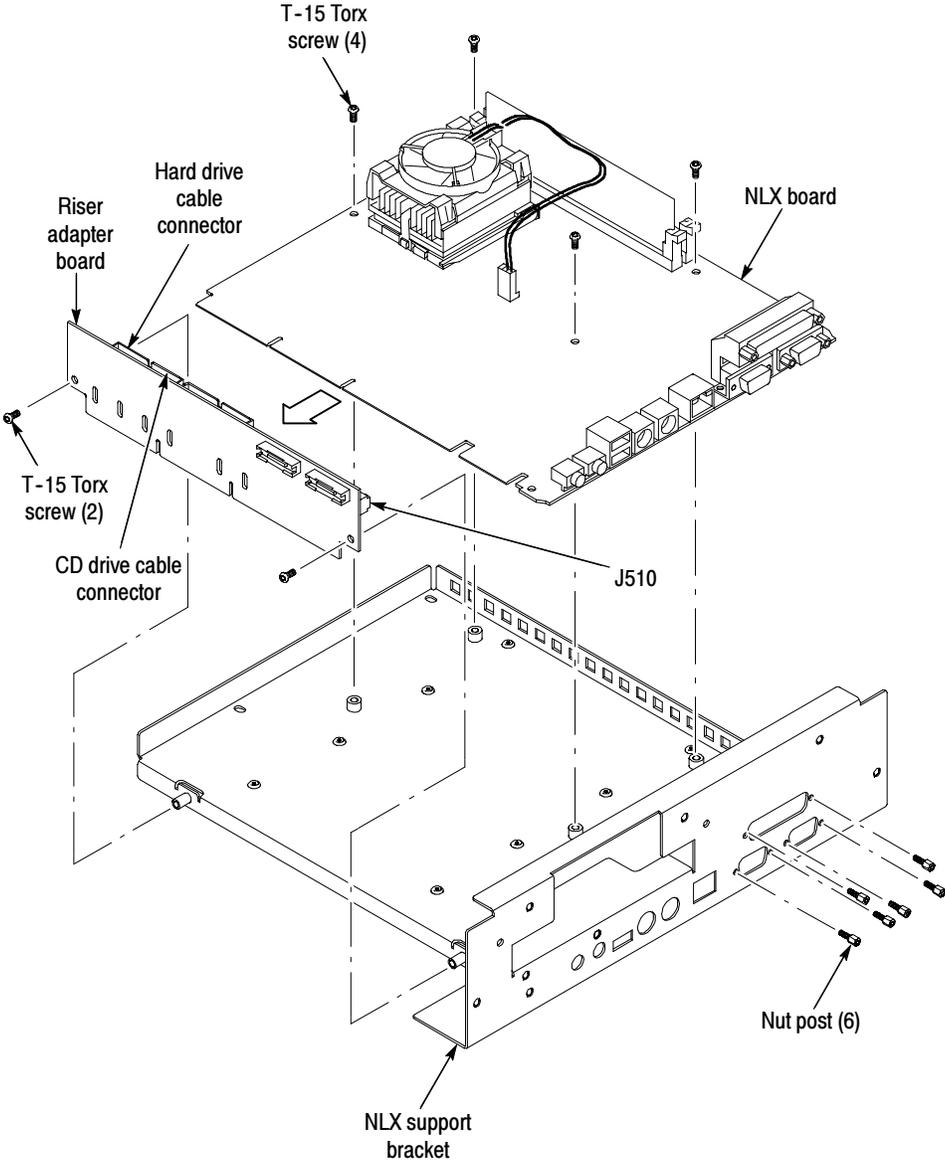

Figure 2-10: Riser adapter and NLX board removal
4. *Remove the Riser Adapter and NLX Boards:* See Figure 2-10 on page 2-17.